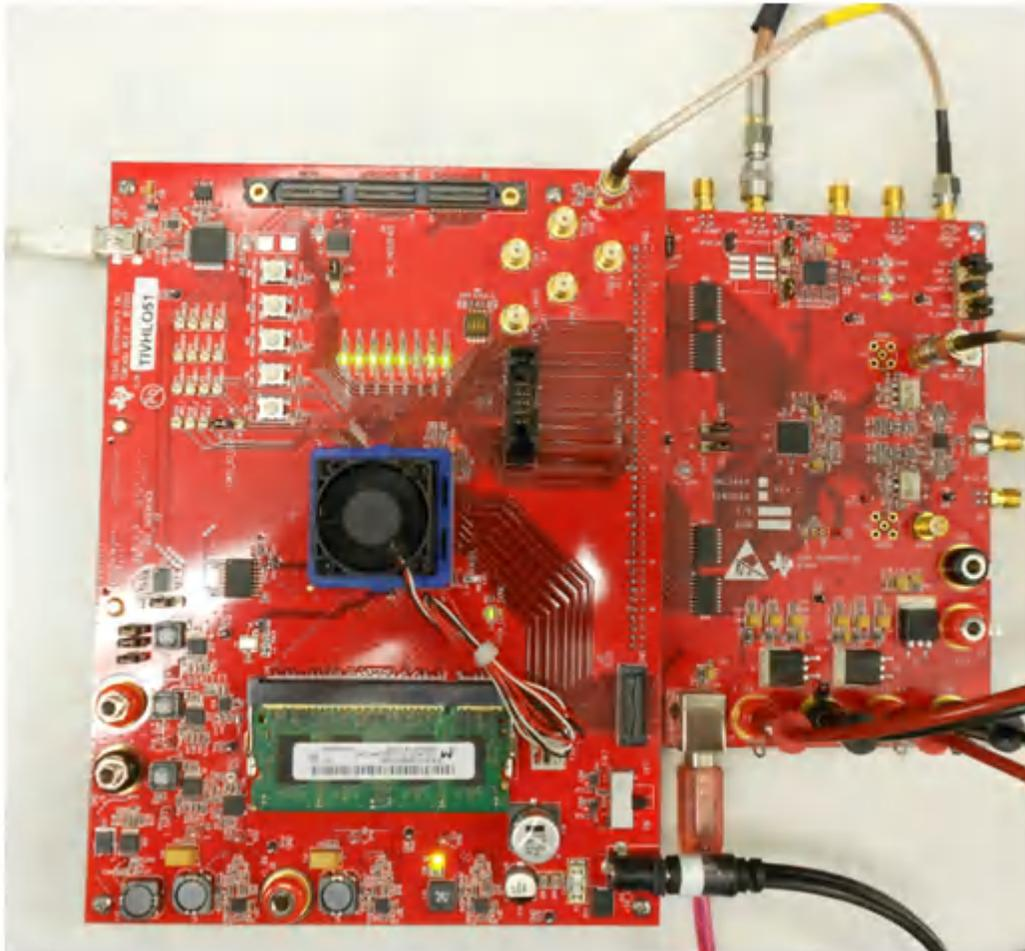

Figure 5-5. TSW1400EVM Interfacing to the CMOS Connectors of a DAC5688EVM
- The TSW1400 EVM connected to the CMOS connectors of the DAC5688 EVM is shown in Figure 5-5